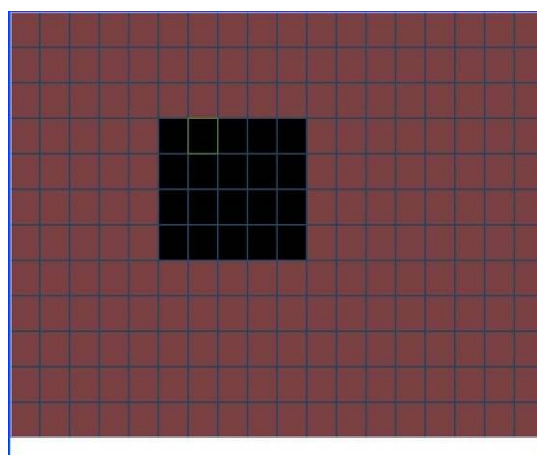

Figure 4-18
- Region: Click select button, the interface is shown as in Figure 4-18. Here you can set motion detection zone. There are 396(PAL)/330(NTSC) small zones. The green zone is current cursor position. Grey zone is the motion detection zone. Black zone is the disarmed zone. You can click Fn button to switch between the arm mode and disarm mode. In arm mode, you can click the direction buttons to move the green rectangle to set the motion detection zone. After you completed the setup, please click ENTER button to exit current setup. Do remember click save button to save current setup. If you click ESC button to exit the region setup interface system will not save your zone setup.
In Figure 4-18, you can left click mouse and then drag it to set a region for motion detection.